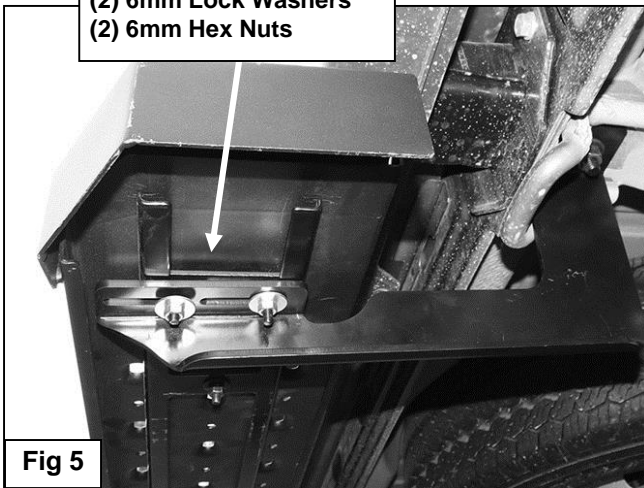

Fig 5
6. Attach the Step to the Brackets with (4) 6mm Flat Washers, (4) 6mm Lock Washers and (4) 6mm Hex Nuts, **(Figure 5)**. Do not fully tighten hardware at this time.